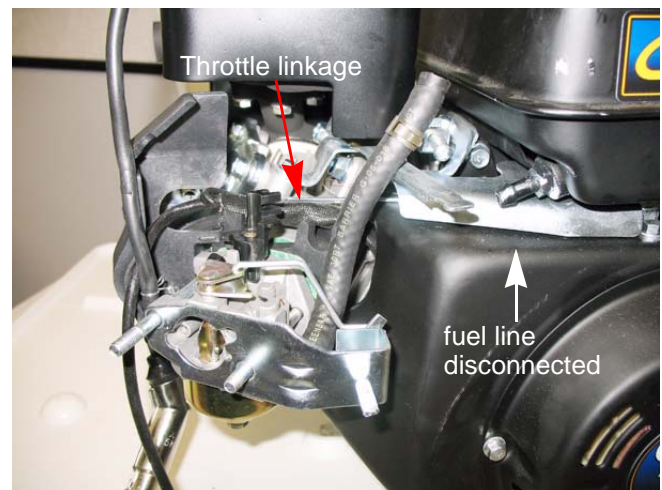

Figure 3.7
11. Disconnect the throttle linkage and return spring from the carburetor. See Figure 3.7.